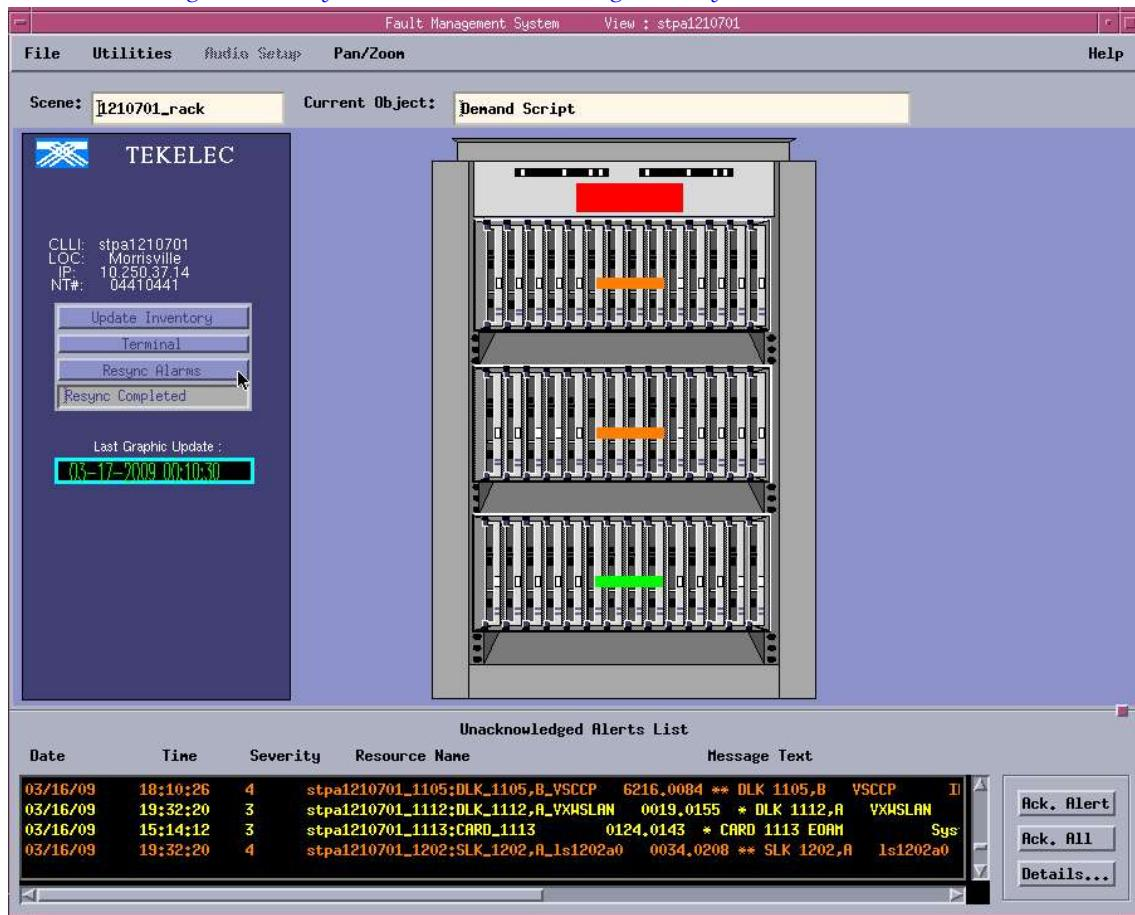

Figure 94: Resync Alarms in Fault Management System
- When selected from the **Resync Alarms** button in the Fault Management System window, as illustrated in *Figure 94: Resync Alarms in Fault Management System*.